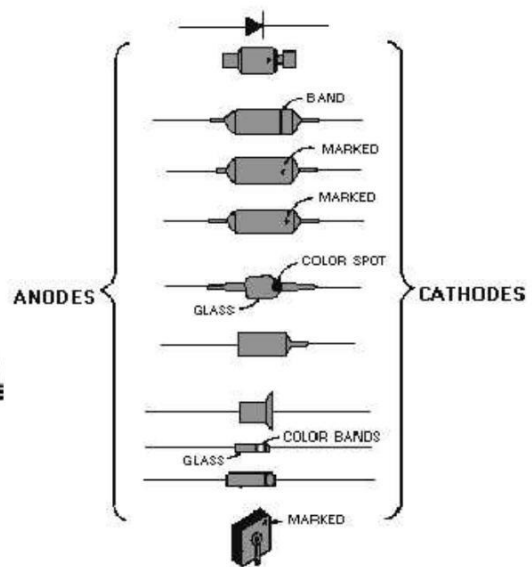

Fig. 5: Identification of Cathode
When working with different types of diodes, it is also necessary to distinguish one end of the diode from the other (anode from cathode). For this reason, manufacturers generally code the cathode end of the diode with a "k," "+," "Cath," a colour dot or band, or by an unusual shape (raised edge or taper) as shown in Fig. 5. In some cases, standard colour code bands are placed on the cathode end of the diode. This serves two purposes: (1) it identifies